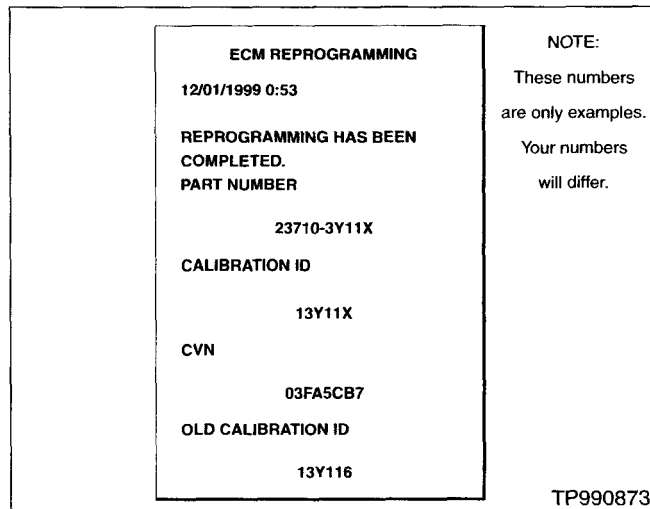

Figure 25
37. Once ECM Reprogramming is done, CONSULT II will print out a report (see Figure 25). Attach this to the repair order for future reference.